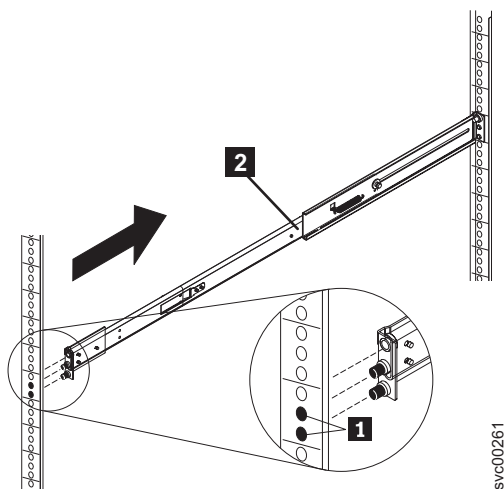

Figure 45. Removing the right slide rail from the front of the rack
3. Push the rail pins **1** out of the front rack mounting flange, as shown in Figure 45, to shorten the right slide rail and remove it from the front flange. Then pull the right slide rail forward to remove the slide rail from the rear rack mounting flange. Remove the left slide rail in the same way.